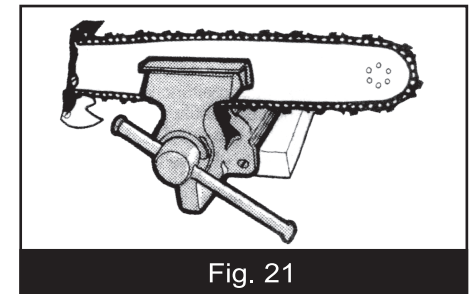

Fig. 21
2. Fasten the bar in a vice so that the chain can slide (Fig. 21)